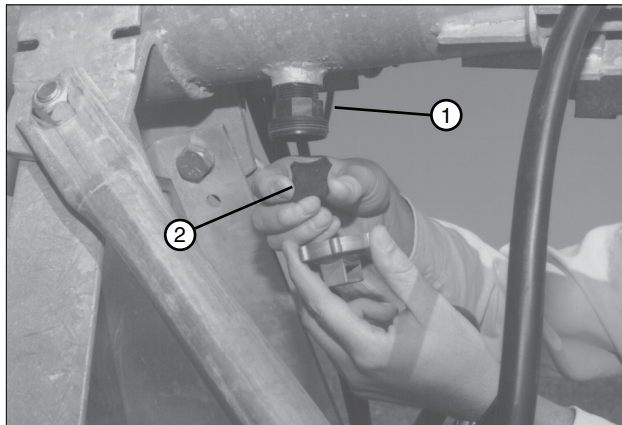

Figure 52-1 1. Pipe Drain
2. Remove the pipe drains at each tower and clean sand and foreign particles from these drains. Turn the rubber drain seal over when reinstalling. See figure 52-1.